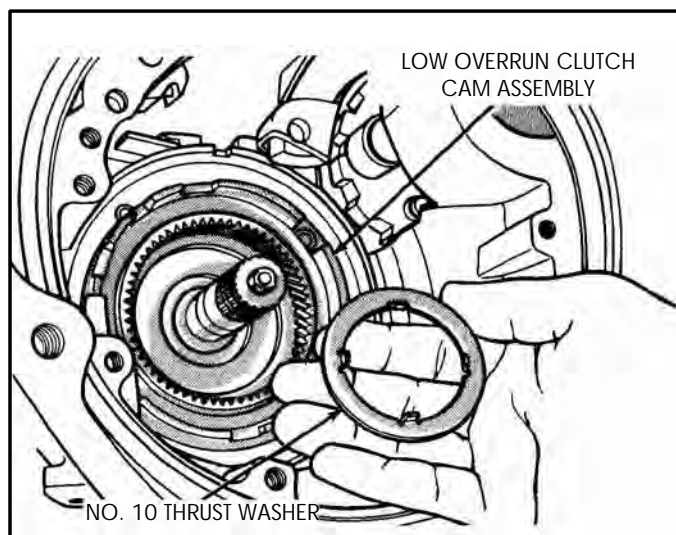

Figure 55
34. Remove the number 10 thrust washer from the transaxle, as shown in Figure 55.